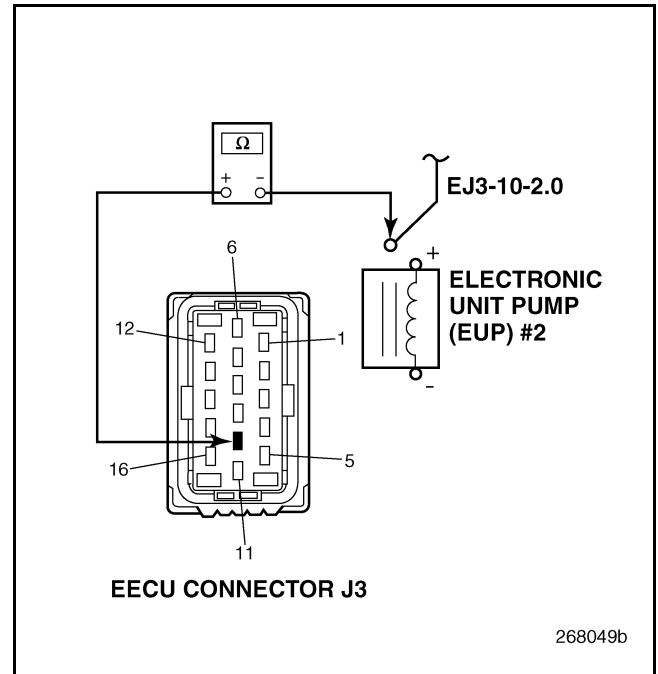

Figure 757
4. Check for continuity between EECU harness connector J3 pin 10 and circuit EJ3-10-2.0 at EUP Solenoid 2 (see Figure 757).